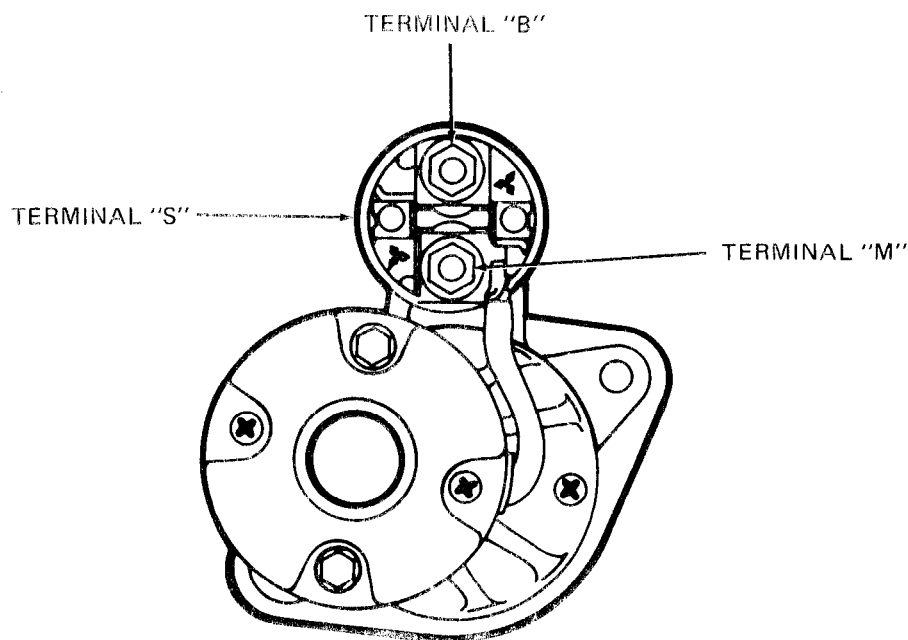

Figure 7-8. Solenoid Testing.
(4) Test field coil.
(5) Test solenoid.
- (a) Check for continuity between solenoid terminals "M" and "B" with a multimeter (set to read ohms). Refer to Figure 7-8.
1 Positive (+) connection to "S" terminal on solenoid (see Figure 7-8).